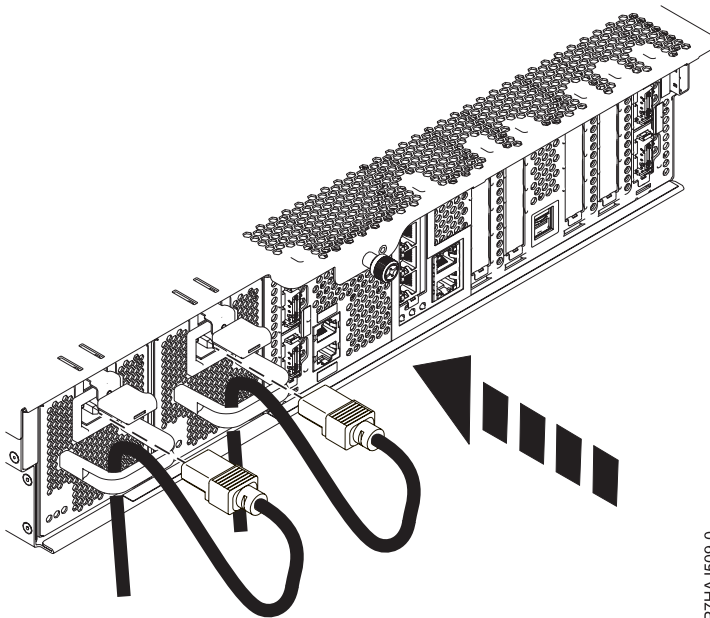

Figure 4. Routing the power cable
4. Route the power cable through the cable management bracket on the back of the power supply, as shown in Figure 4 on page 5.